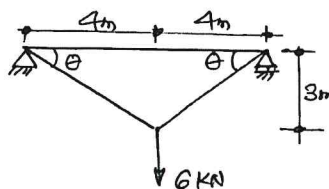

Fig.Q8
- 8 Determine the vertical and horizontal deflection of the point C, of the pin jointed frame shown in Fig.Q8. The cross sectional area of $AB = 100 \text{ sqmm}$ and BC and AC are 150 sqmm . Take $E = 2 \times 10^5 \text{ N/mm}^2$.